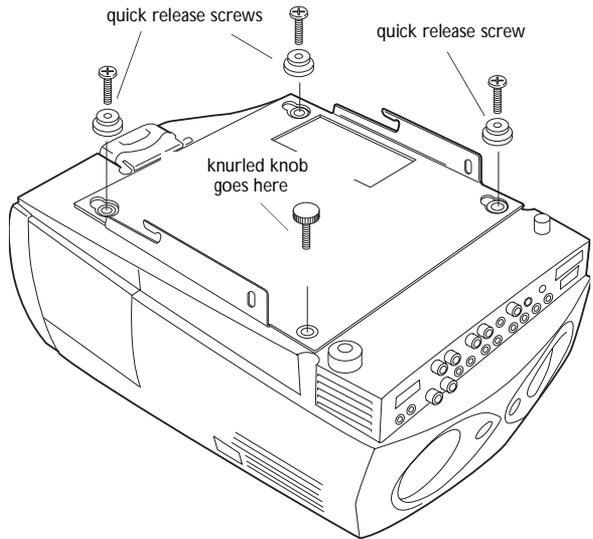

FIGURE 3
- 2 Insert the 3 screws into the 3 quick release sleeves (Figure 3).
- 3 Attach the screws and sleeves to the holes in the projector as shown in Figure 3. Be careful not to over-tighten the bolts.
- 5 Attach the 10/32 knurled knob to the projector in the location shown in Figure 3.